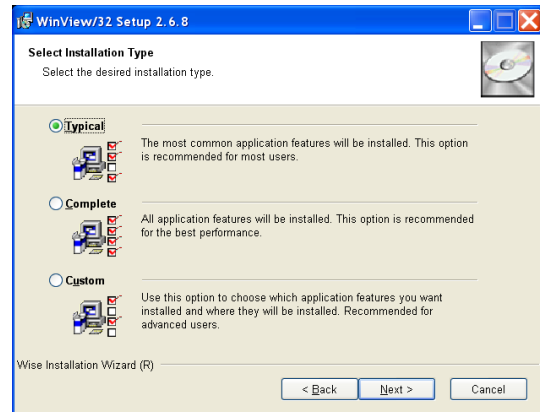

Figure 5. WinView/32 Installation: Select Installation Type dialog
2. On the **Select Installation Type** dialog (see Figure 5), click on the **Typical** radio button to install the required drivers and the most commonly installed program files. Select the **Custom** radio button if you would like to choose among the available program files or do not want to install the drivers. **Complete** installs all of the application features.